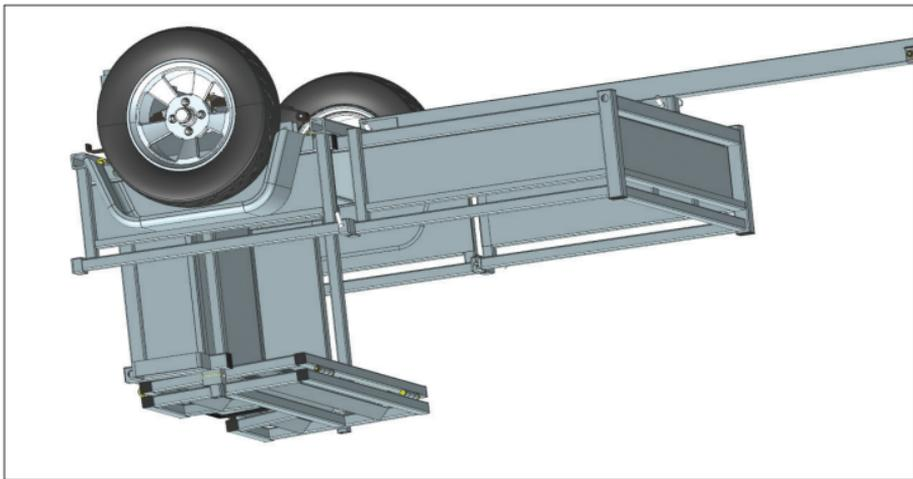

Figure 16: Unfolded front section
- 1.1. Remove the R-Clips and pull the latches to open the tailgate Fig. 16
- 2.2. Check that the tailgate pins are in position. Fig. 16
Figures 16 and 17.